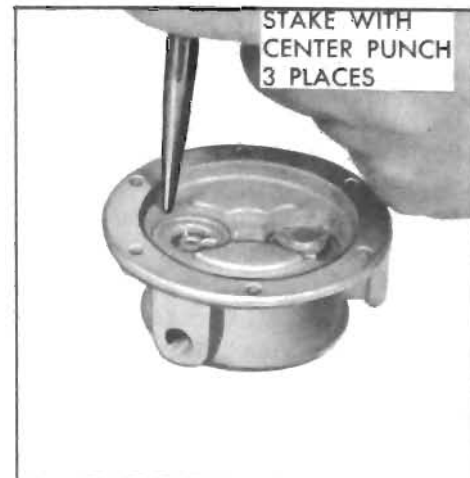

Figure 3-24—Staking Valves in Fuel Cover
4. Seat valves firmly against gaskets and stake cover in three places around edge of each valve. See Figure 3-24.